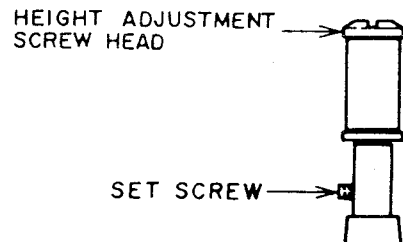

Fig. 4-11
- 1) Slightly loosen the set screw at the lower part of the LOADING LEADERS (L), (R) so that the LOADING LEADER can be adjusted with reasonable tightness. (Refer Fig. 4-11.)